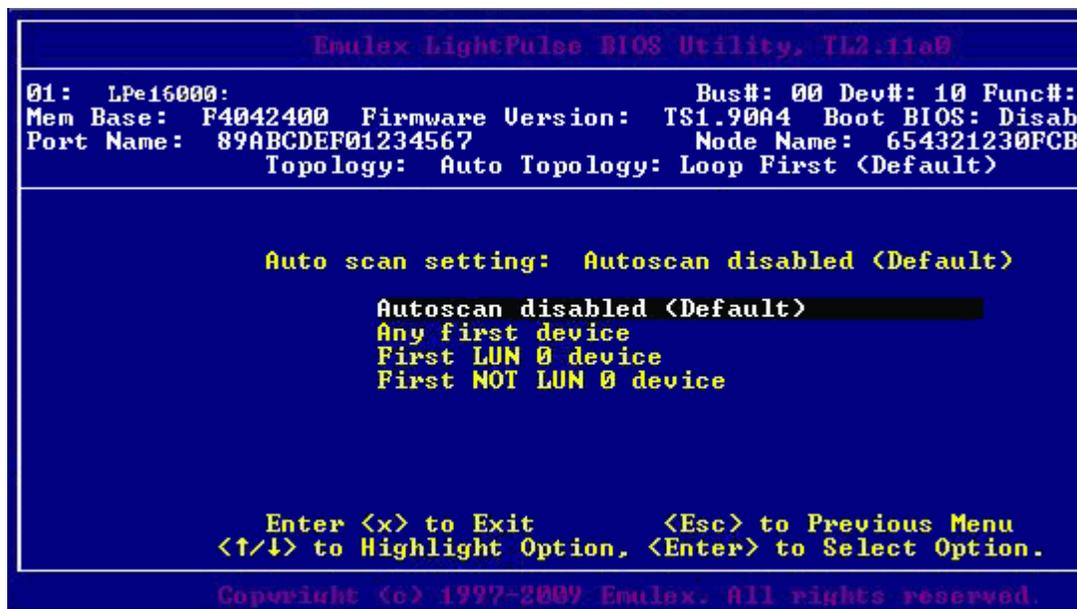

Figure 4-14 Set Auto Scan Menu
2. Select **Auto Scan Setting** and press **<Enter>**. Figure 4-14 on page 37 is displayed.